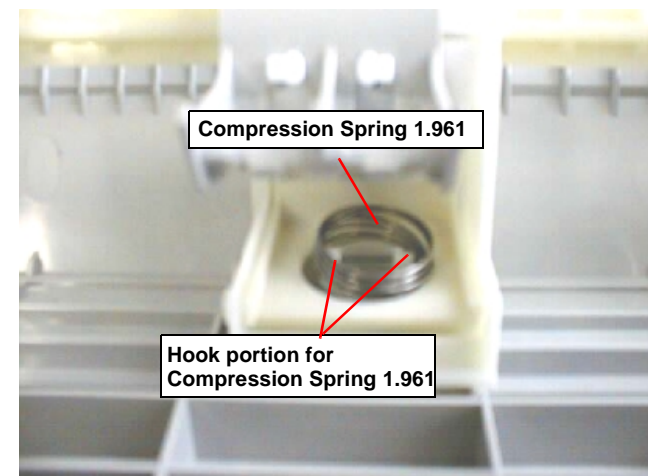

Figure 4-33. Setting the Compression Spring 1.961
- During assembly, when setting the compression spring 1.961 to the spring installation position in the Paper Feed Assembly, hang the spring on the hook temporarily. Also, do not forget to release the hooks of these springs from the holes located on the back of paper feed assembly by rotating the spring. (Refer to Figure 4-33).